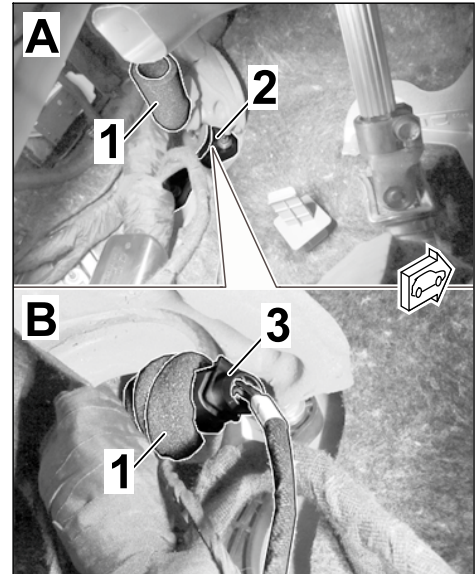

Figure 12
3.1.1 Expose the connection point (preparation = socket connector, 6-pin) in the passenger compartment of the vehicle, area of bulkhead grommet, A-pillar left (⇒ *Figure 12 -A-*).
3.1.3 Establish a connection between the plug connection preparation and the wire harness for the exhaust flaps (6-pin) ⇒ *Figure 12 -B-*.